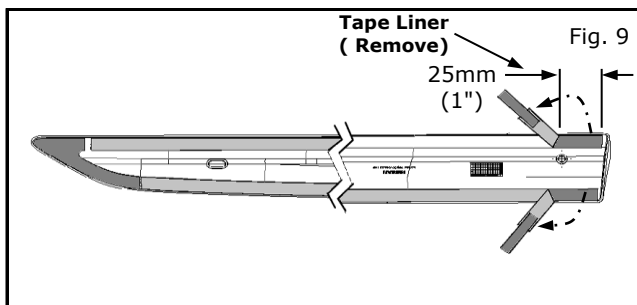

Fig. 9
- 13) Peel back tape liner approximately 25 mm (1") from rear end, as shown in Fig. 9.